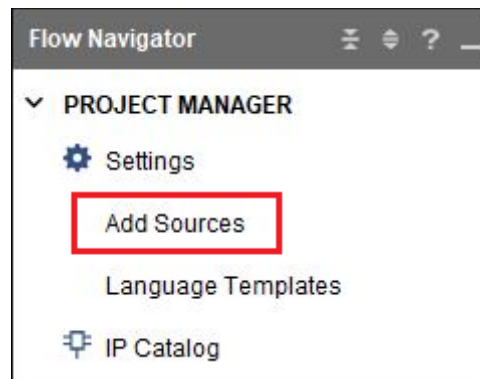

Figure 8: Add Sources option in Project Manager
- 3.1 Click **Add Sources** under the *Project Manager* tasks of the *Flow Navigator* pane as shown in **Figure 8**.